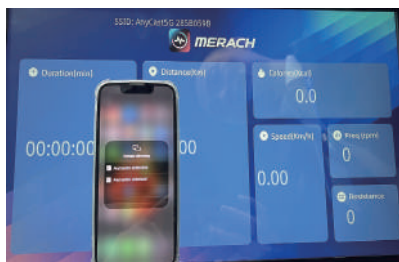

Figure 1
2. When the **SSID Code** appears in the upper of the display, open **Screen Mirroring** on your phone and search for the devices that can be mirroring. As shown in Figure 1.
Repeat 3 times (see Figure 1).